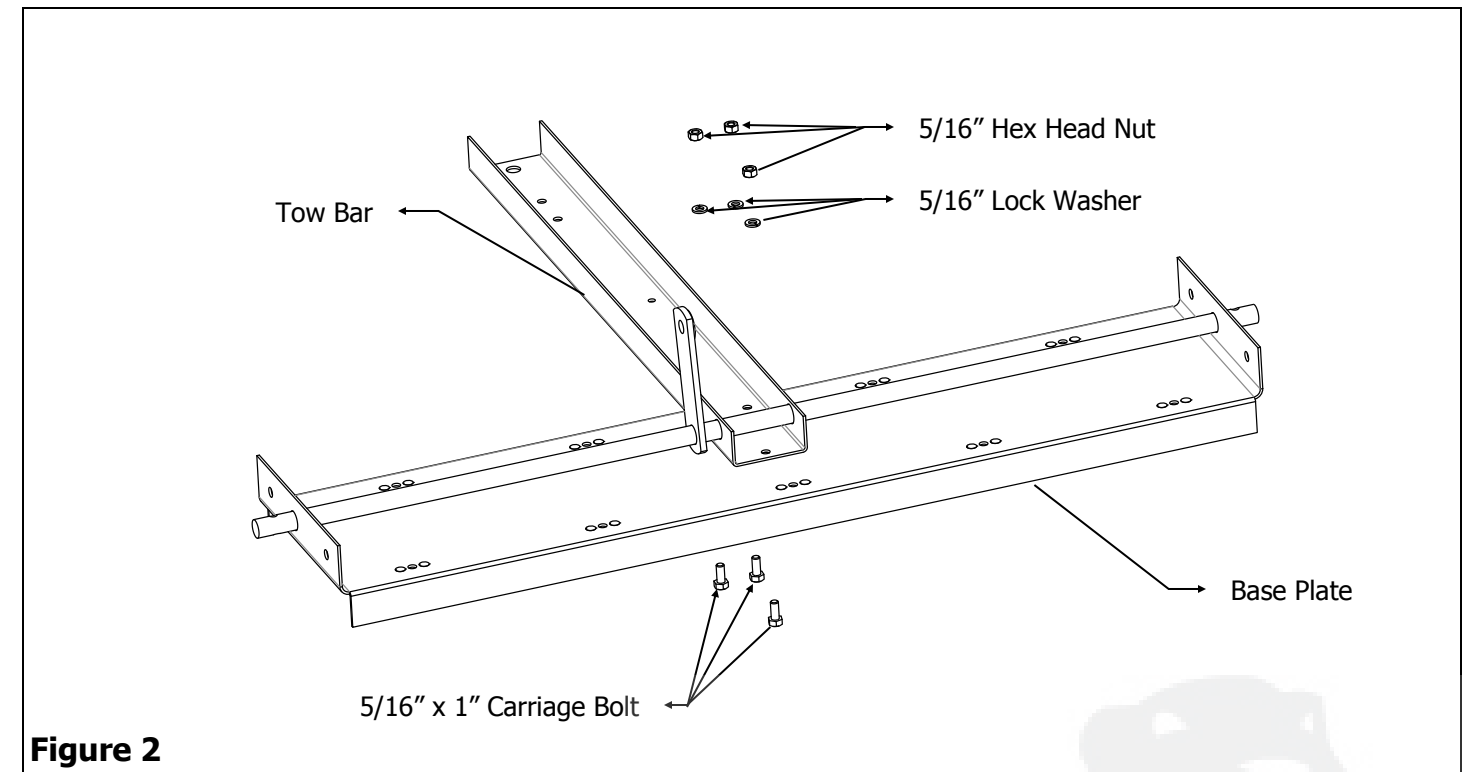

Figure 2
2. Align the three rear holes in the Tow Bar with the corresponding hole in the Base Plate. Insert a 5/16" x 1" Carriage Bolt into one of the holes in the Base Plate then through the corresponding hole in the Tow Bar. Insert a 5/16" Lock Washer, then secure with a 5/16" Hex Head Nut. Repeat process on the remaining two holes. See Figure 2.